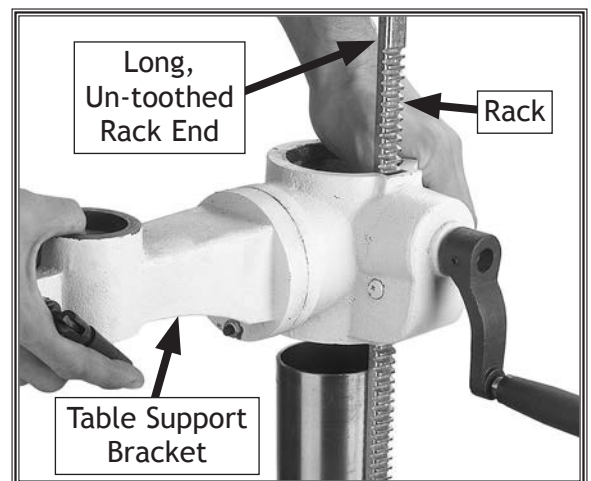

Figure 17. Rack, column, table support position.
- Position the rack so the long un-toothed end is facing upward (see **Figure 17**).
- Insert the rack into the table support bracket so the teeth face out and mesh with the pinion (see **Figure 17**).